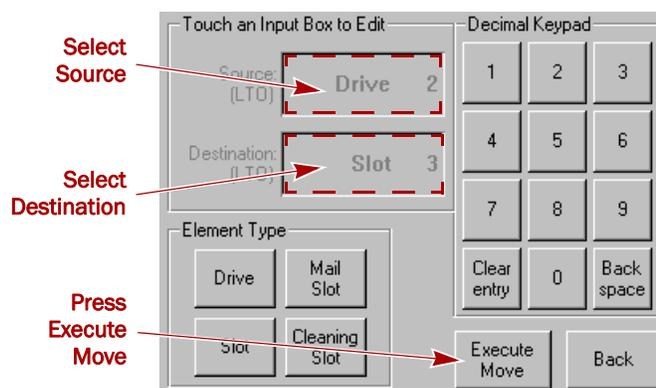

Figure 5-13: Move Media Dialog Box
3. Use the Move Media dialog box (Figure 5-13) to select the Source and Destination: